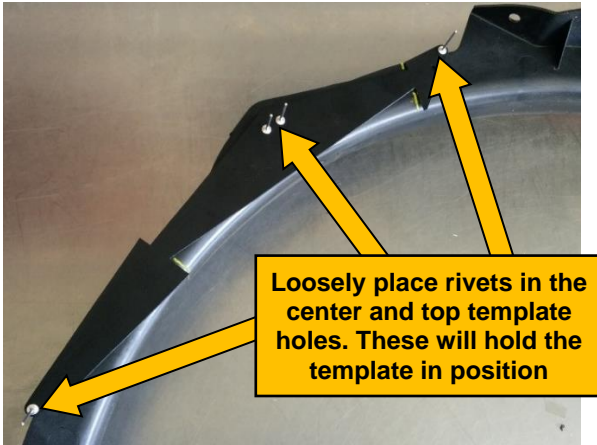
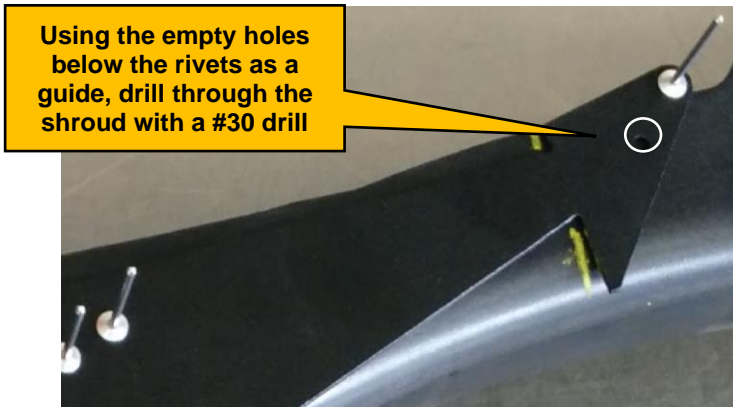

Figure 4 - Modifying the Shroud
Figure 5 - Modifying the Shroud
- Position the supplied template on the fan shroud as shown in Figure 4 and Figure 5.